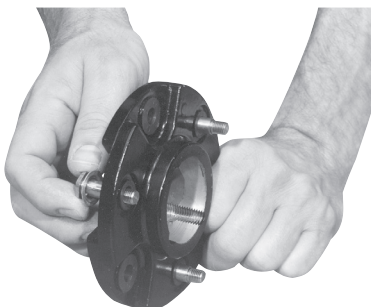

Figure 8
- Step 3 Insert half of the compressed drive pins through the armature hub. The threaded end of the pins must come through on the side of the hub with grooves around the holes. (Figure 8)